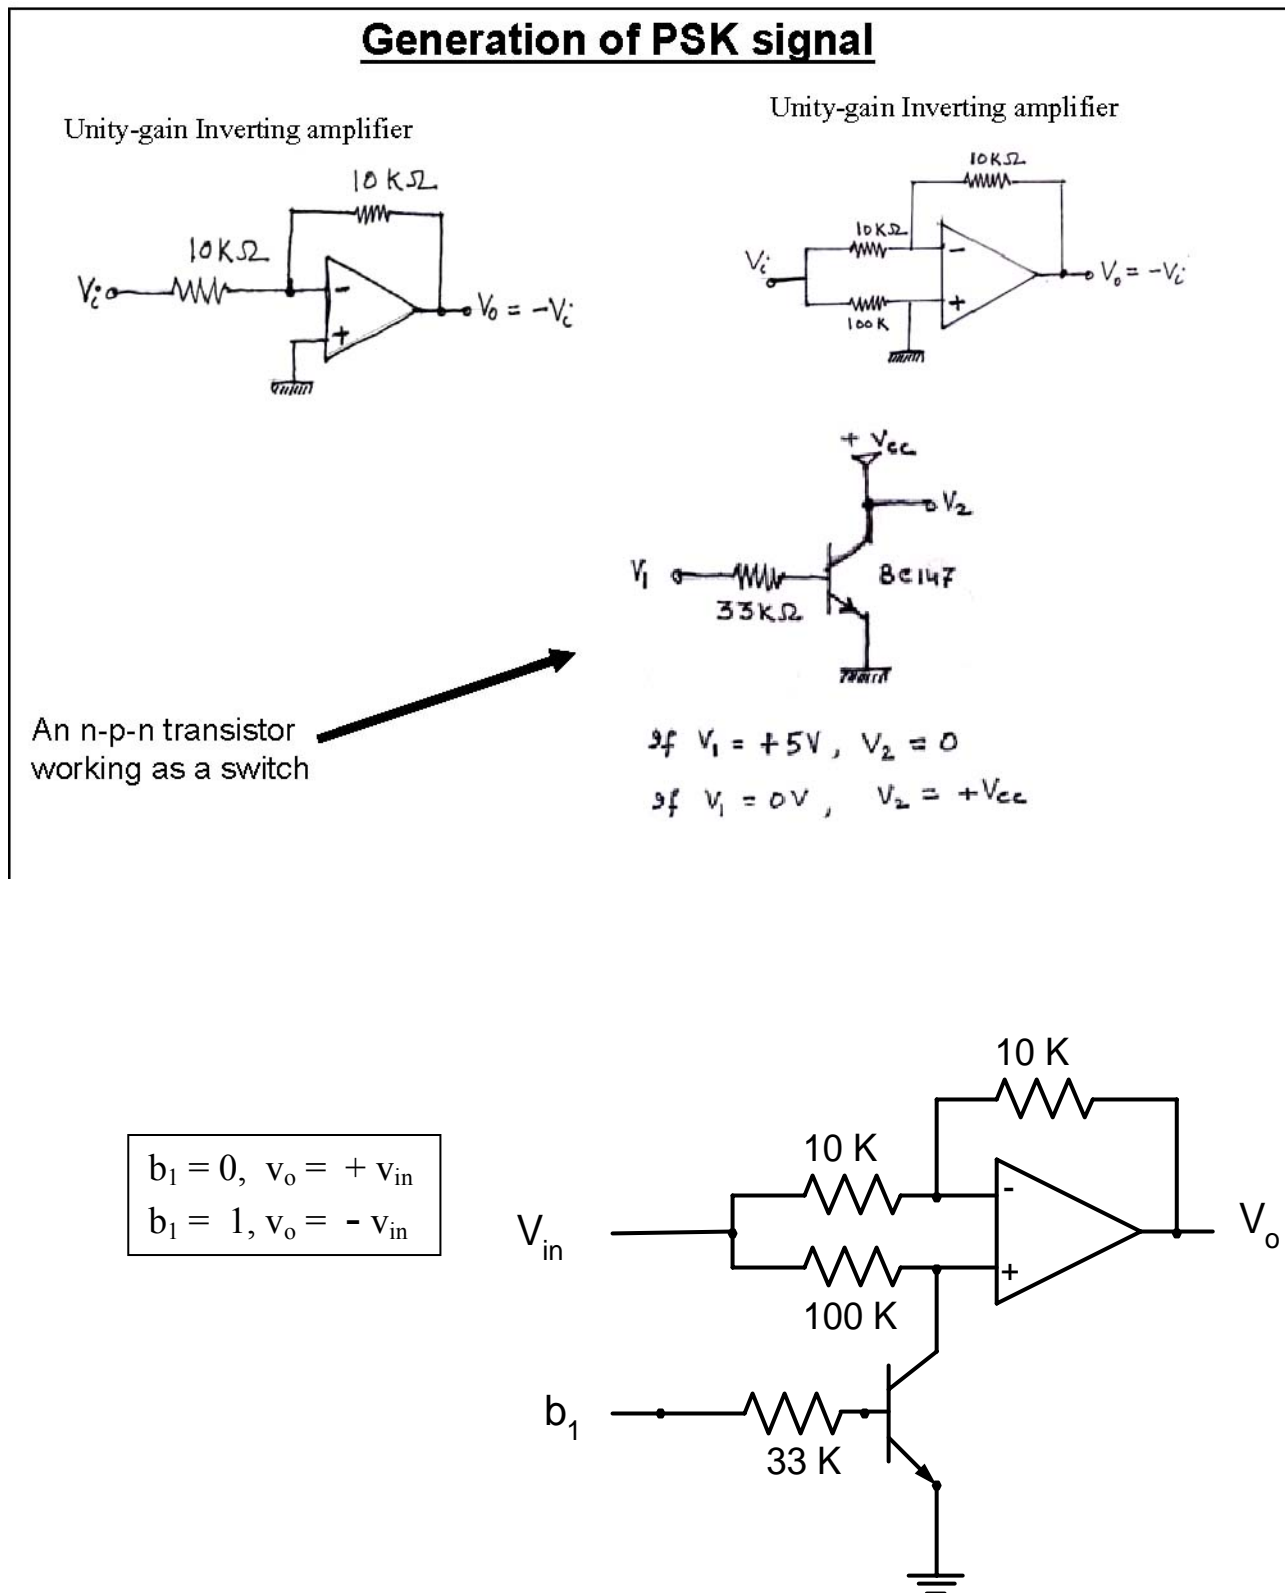

Figure 1:- PSK Circuit
OOK:- By shorting the 10 K resistor connected between pin # 2 & 6 of the PSK circuit shown in Figure 1 above, it will now work as an OOK (ON-OFF Keying) circuit.
1. Construct the PSK circuit (as shown in Figure 1 above) on the Breadboard.